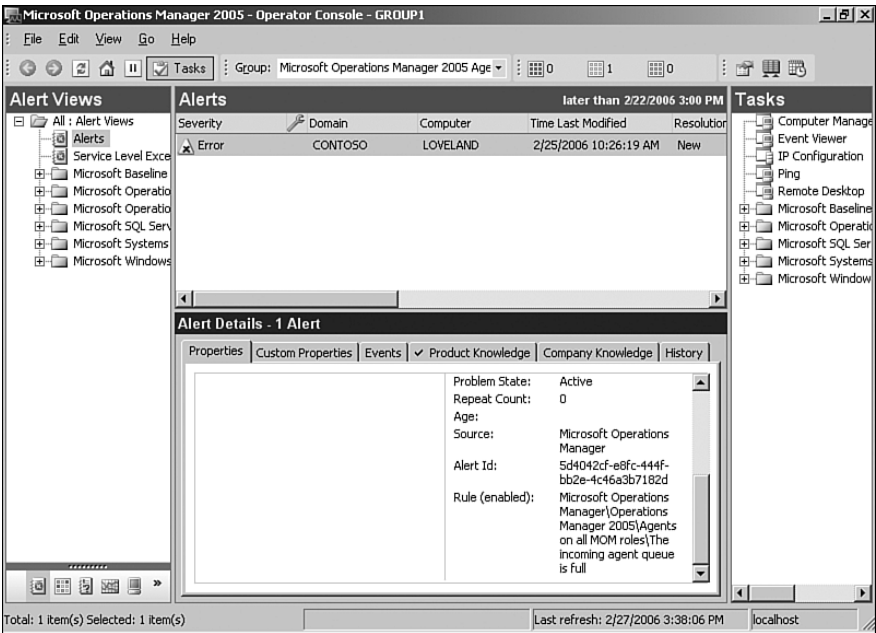

FIGURE 13.7 The incoming agent queue is full.
- ▶ Look for Queue Full alerts that MOM may generate, an example of which is shown in Figure 13.7. Queue Full alerts may be associated with Event IDs of 21268, 22061, 22062, or 21269. The alert typically occurs if processing is blocked for more than 60 seconds. The queue may be full on the agent or on the management server, and the error may be caused by either the agent not being able to communicate with the management server or a Data Access Service (DAS) issue on the server preventing insertion of data into the database. It may also indicate that the volume of data